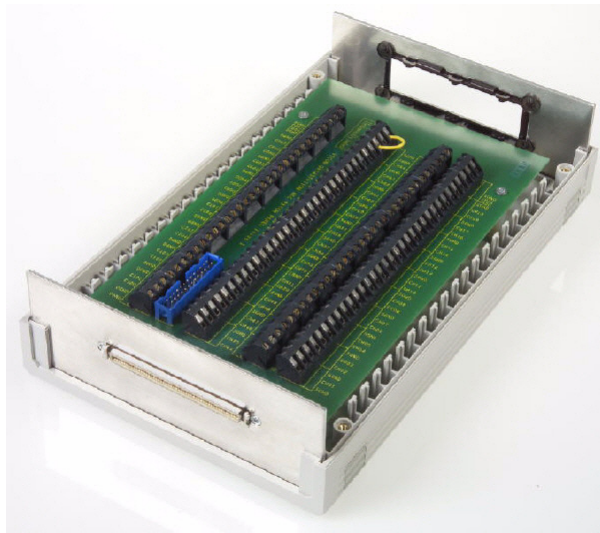

Figure A-4: Vicon patch panel
3. Remove the four M3 Pozidrive screws on the lid of the box to expose the patch panel, shown in Figure A-4.